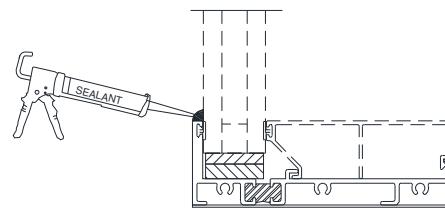

Figure 19:
2. After glazing, apply a continuous bead of sealant to the fixed frame leg and glass (Figure 19).